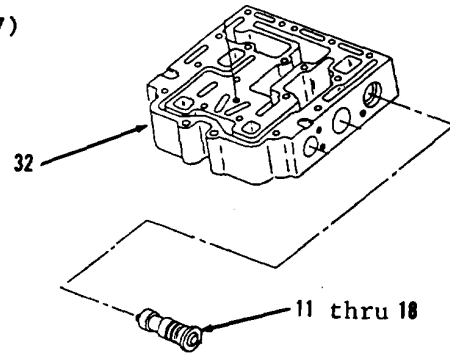

Figure 14-104.
8. Remove items 11 thru 18 as an assembly from body (32, Figure 14-104).